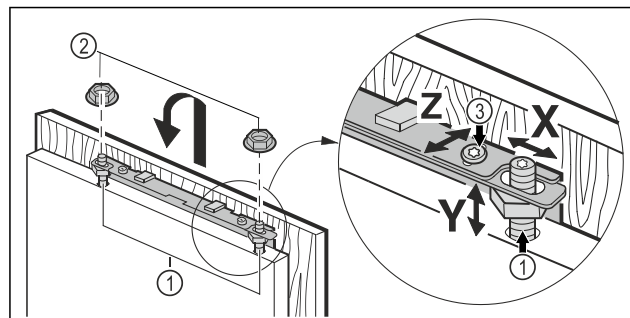

Fig. 43
- Hook the unit door onto the adjustment bolts Fig. 43 (1) and screw the lock nuts Fig. 43 (2) loosely onto the adjustment bolts.
- Align the unit door in height Y and in the lateral inclination: Adjust the adjustment bolt Fig. 43 (1) with a screwdriver.
- Tighten the lock nuts Fig. 43 (3).